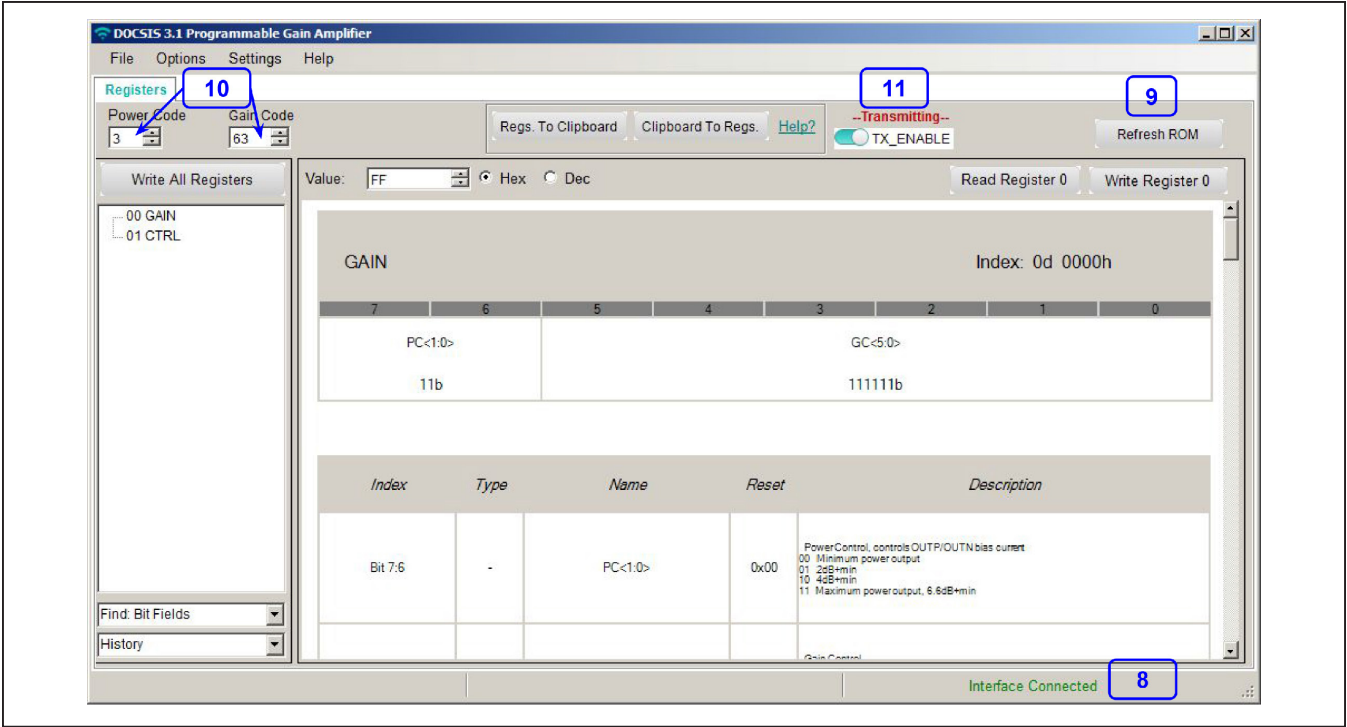

Figure 2. EV Kit GUI Register00
- 8) Run MAX3522.exe. MAX3522B GUI should be launched as shown in Figure 2. Please notice that the sequence of first turning on the power supply then starting the GUI is very important. This sequence ensures proper initialization of the MAX3522B. If the setup is successful, GUI should indicate “interface connected”, in the lower right corner of the GUI (see Figure 2).
- 9) On the MAX3522B GUI, hit Refresh ROM button, located in the upper portion of the GUI (see Figure 2).
- 10) On the MAX3522B GUI, set Power Code = 3, Gain Code = 63, (located in the upper-left section of the GUI) by using the up/down arrow buttons or typing the value (see Figure 2).
- 11) On the MAX3522B GUI, Turn on the TX_ENABLE switch (see Figure 2). The supply current from the +5V supply should read approximately 1100 mA. **Be sure to adjust the power supply to account for any voltage drop across the ammeter.**